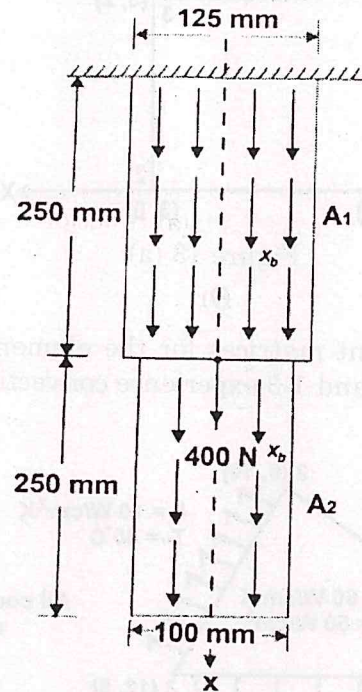

Figure 12 (a)
12. (a) A thin plate of uniform thickness 20 mm, is as shown in Figure 12 (a). In addition to the self-weight, the plate is subjected to a point load of 400 N at mid-depth. The Young's modulus  $E = 2 \times 10^5 \text{ N/mm}^2$  and density  $\rho = 0.8 \times 10^{-4} \text{ N/mm}^3$ . Analyze the plate after modeling it with two elements and find the stresses in each element. Determine the support reactions also.